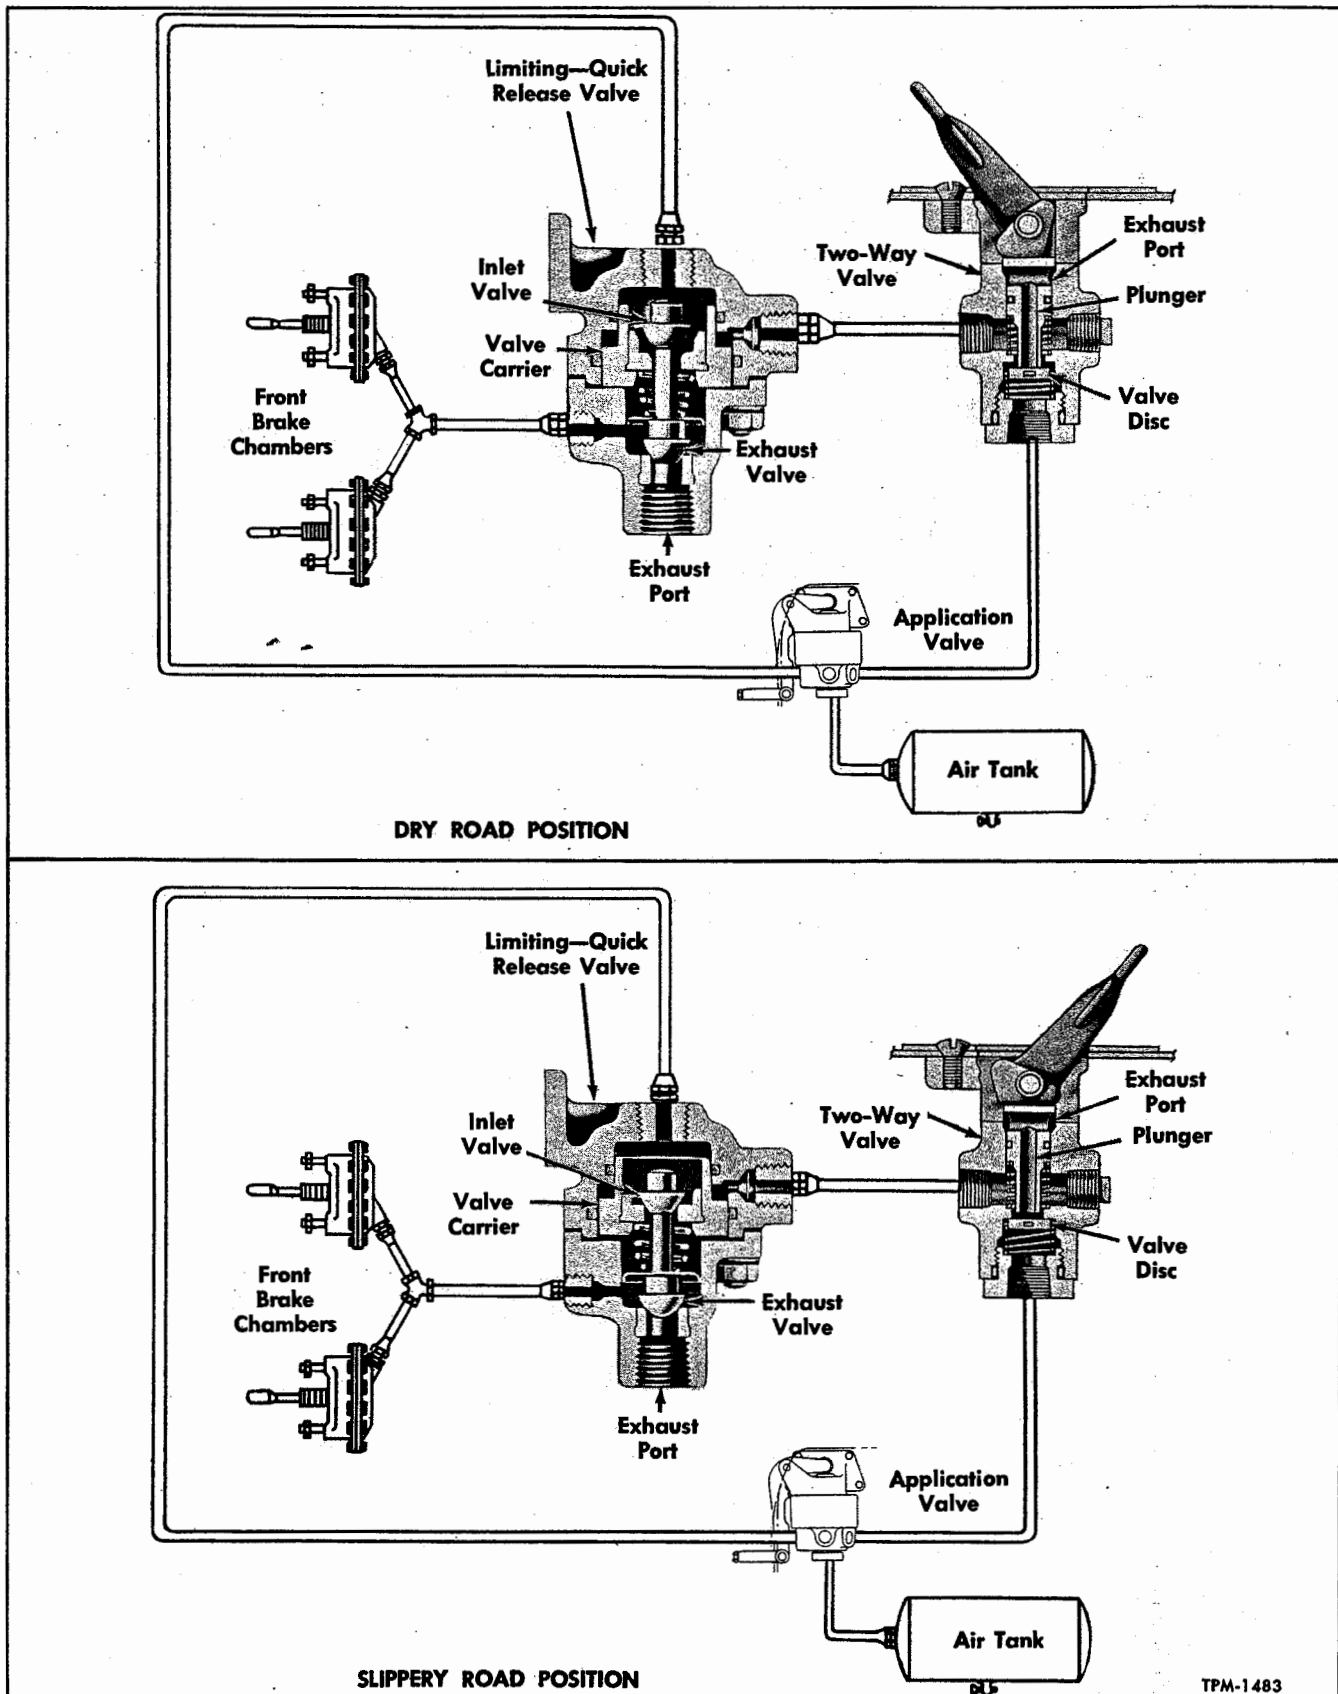
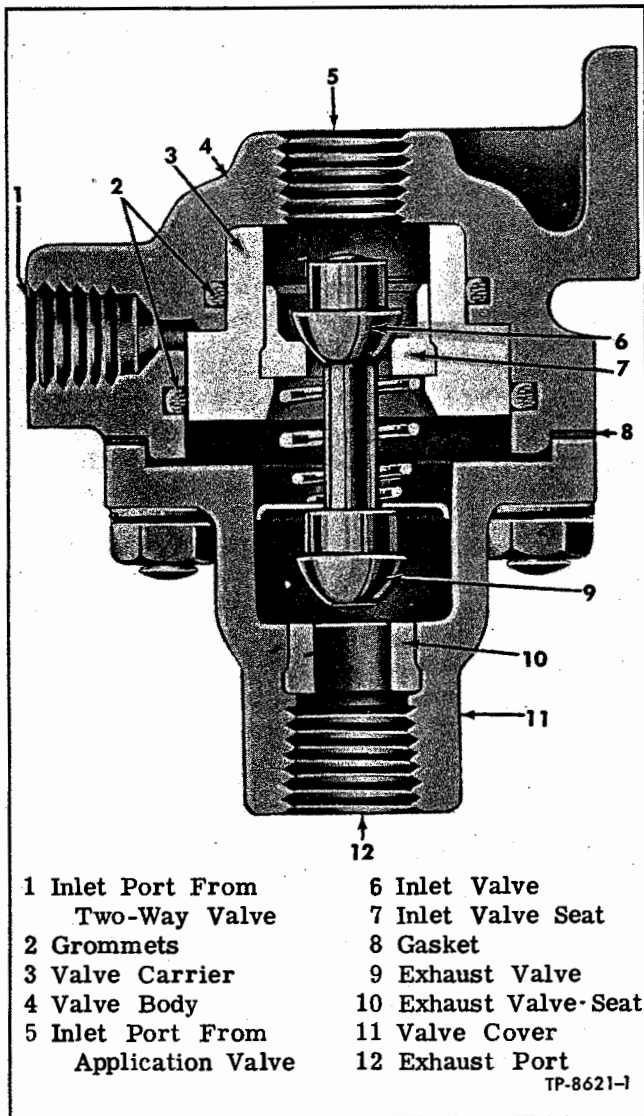
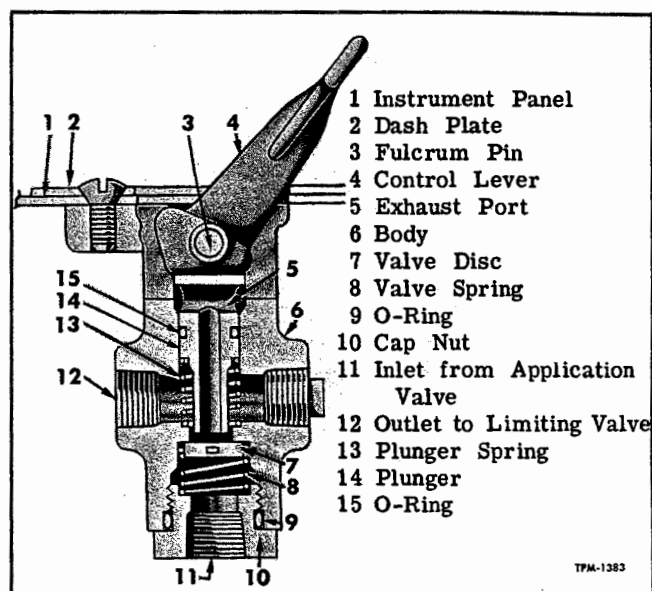

Figure 14—Front Brake Limiting and Two-Way Control Valve Operation
Figure 15—Front Brake Limiting Quick Release Valve
Figure 16—Two-Way Control Valve (Also I.C.C. Valve)
A combination limiting and quick release valve (fig. 15) and a two-way control valve (fig. 16) are used in combination on some vehicles as typically illustrated in figure 14. This combination permits full brake delivery pressure to the front brakes when on dry roads, or at the option of the operator, limits the pressure to the front brakes to 50 percent of the brake valve delivery pressure when on slippery roads.
tee fitting. One air line from the brake application valve is connected to the inlet port of the two-way valve and another connects to the brake valve port at top of limiting quick release valve (fig. 14). Another air line connects the side delivery port of the two-way valve to the port opposite the mounting pad of the limiting quick release valve. The two other side ports of the limiting quick release valve are connected to the front brake chambers (fig. 14).
OPERATION**1. Dry Roads (Top View, Fig. 14)**
2. Slippery Roads (Bottom View, Fig. 14)
LIMITING VALVE OVERHAUL (Fig. 15)
TWO-WAY VALVE OVERHAUL (Fig. 16)
The I.C.C. valve and the two-way control valve shown in figure 16 are identical. The following key numbers refer to figure 16. This valve is in "NORMAL" position, with plunger (14) raised and valve disc (7) against valve seat in body. Air supply line from front air tank is connected to inlet port (11) in cap nut (10). Outlet line to rear brake relay valve is connected to outlet port (12).